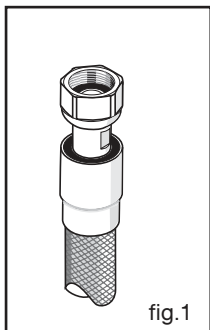

fig.1
- either using a hose with threaded mechanical fittings (**fig. 1**).
- For gas distributed via a pipe (natural gas) the connection is made as follows (**fig.1**):